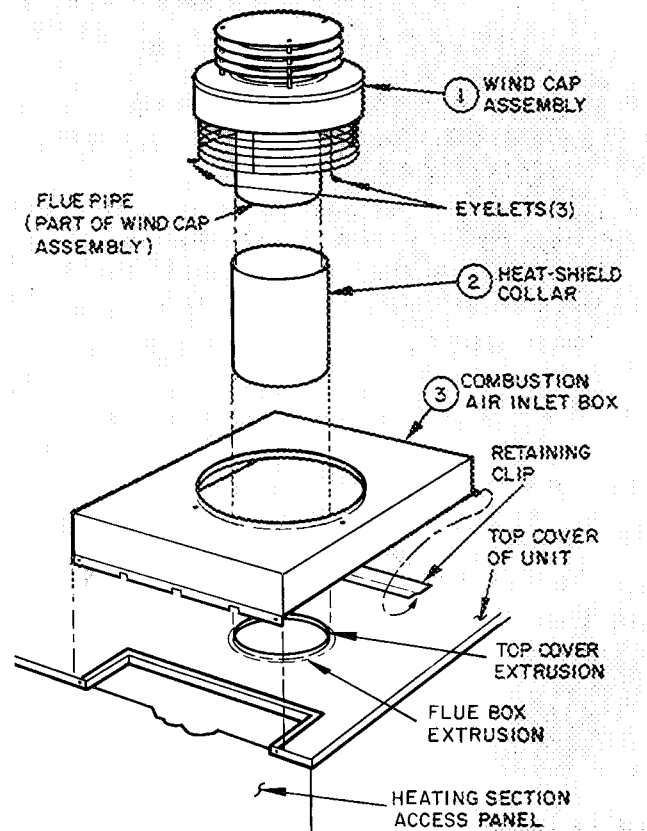

Fig. 2 — Wind Cap and Air Inlet Box Assembly
Locate — The wind cap assembly, heat-shield collar and combustion-air inlet box (items 1, 2 and 3 of Fig. 2) are shipped within the condenser section except 460 volt units.
Assemble (Fig. 2)